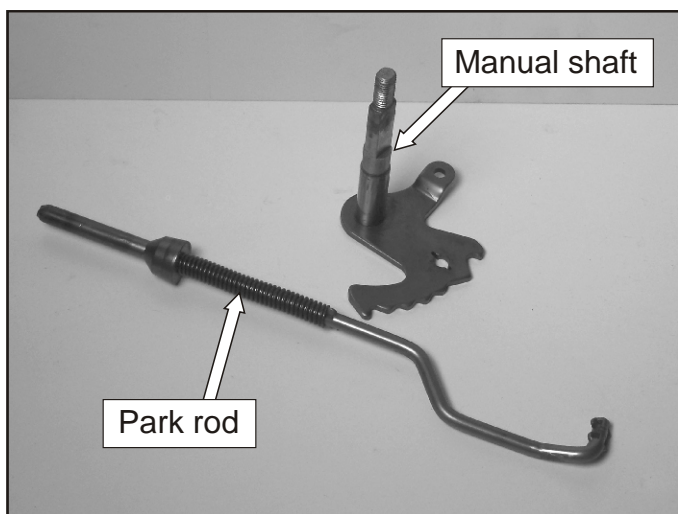
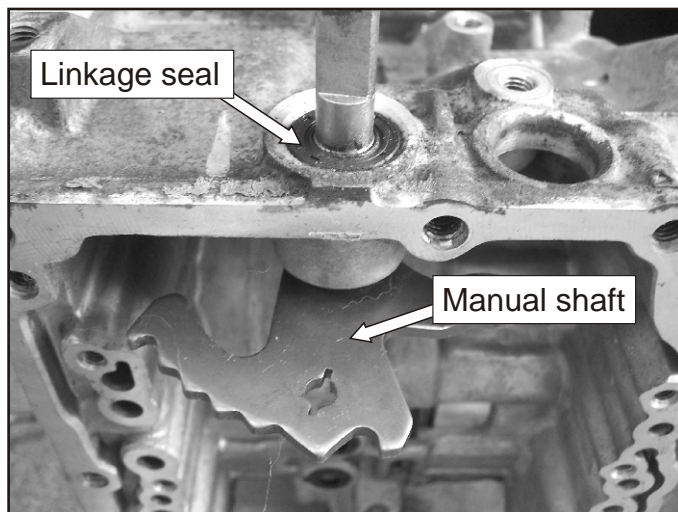

Figure 261
Figure 262
- 189. Install a new linkage seal and assemble the manual shaft into the case as shown below in Figure 262. Use Figure 261 as an assembly guide.